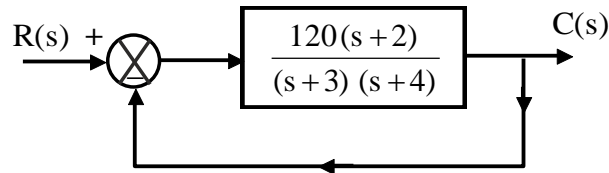

Fig. 5 - a
5. a) Determine steady – state errors for inputs of $5\mu(t)$, $5t\mu(t)$ and $5t^2\mu(t)$ given to system shown in fig. 5 a. The function $\mu(t)$ is unit step. 7
- b) Experimental unit step response of 2nd order system with zero initial condition is shown in fig. 5 – b. Determine natural frequency, damping ratio and other transient specifications. 5